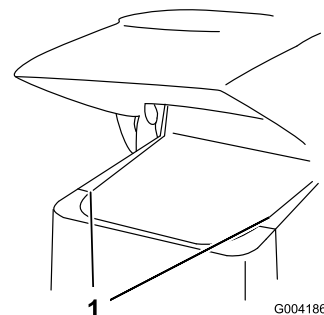

Figure 30
2. Slide the side screens (Figure 30) up and out of the slots in the front screen and frame.